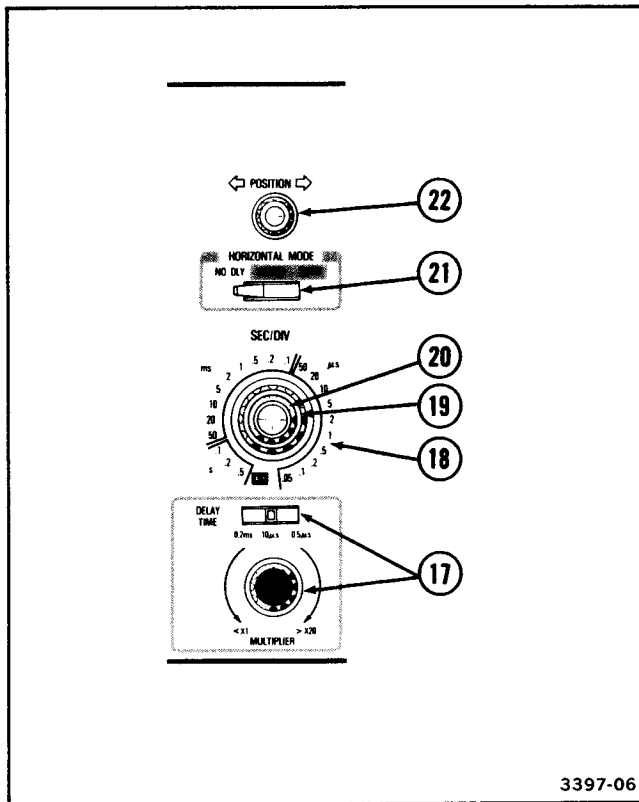

Figure 2-5. Horizontal controls.
Refer to Figure 2-5 for location of items 17 through 22.
- ①7 **DELAY TIME**—Two controls are used in conjunction with INTENS and DLY'D HORIZONTAL MODE to select the amount of delay time between the start of the sweep and the beginning of the intensified zone.
- ①8 **SEC/DIV Switch**—Used to select the sweep speed for the sweep generator in a 1-2-5 sequence. For calibrated sweep speeds, the SEC/DIV Variable control must be in the calibrated detent (fully clockwise).